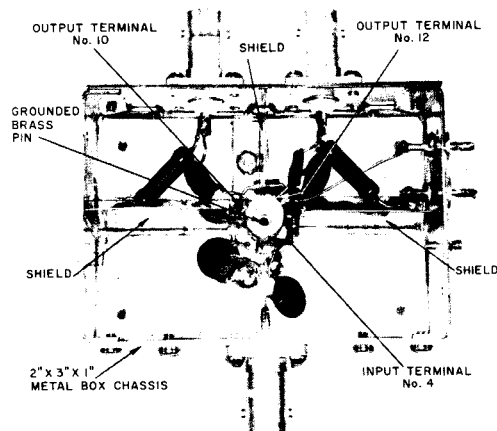

Fig.6 - Test Circuit Layout
Stable high-frequency operation requires that proper high-frequency construction techniques be followed. The photograph of Fig.6 illustrates the precautions taken in the construction of the test circuit of Fig.3.
1. Use sockets only when necessary. Sockets, when used, must provide shielding within the pin circle. The socket shown in the chassis of Fig.6 is a Barnes MG-1201, or equivalent, modified by drilling a $1/8"$ hole in the center and inserting a grounded brass pin.